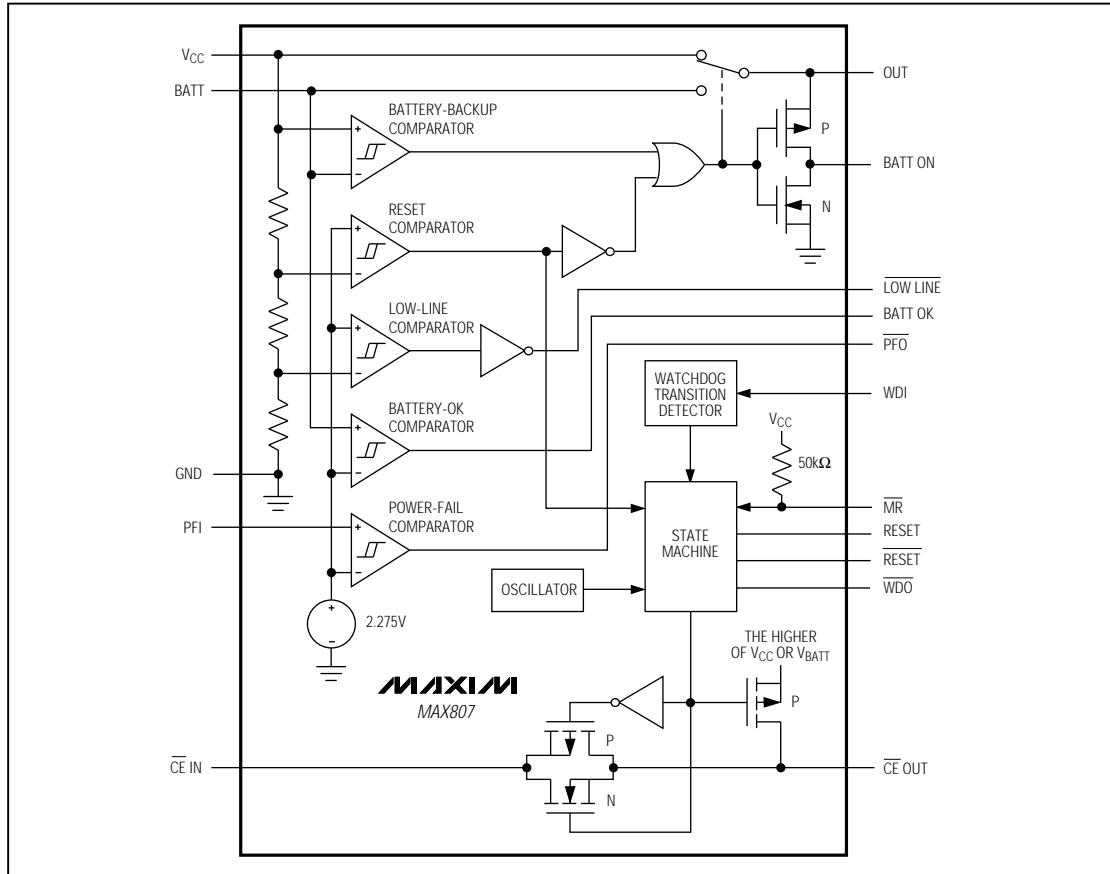

Figure 1. Block Diagram
The MAX807 microprocessor (μ P) supervisory circuit provides power-supply monitoring, backup-battery switchover, and program execution watchdog functions in μ P systems (Figure 1). Use of BiCMOS technology results in an improved $\pm 1.5\%$ reset-threshold precision, while keeping supply currents typically below 70μ A. The MAX807 is intended for battery-powered applications that require high reset-threshold precision, allowing a wide power-supply operating range while preventing the system from operating below its specified voltage range.
The MAX807 provides internal gating of chip-enable (CE) signals to prevent erroneous data from corrupting the CMOS RAM in the event of a power failure. During normal operation, the CE gate is enabled and passes all CE transitions. When reset is asserted, this path becomes disabled, preventing erroneous data from corrupting the CMOS RAM. The MAX807 uses a series transmission gate from the Chip-Enable Input (\overline{CE} IN) to the Chip-Enable Output (\overline{CE} OUT) (Figure 1).